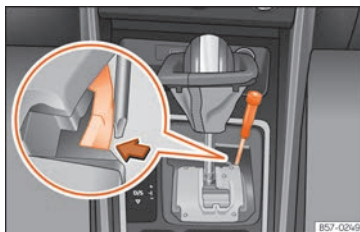

Fig. 218 Gear selector lever: manual release from the parking position.
- Using the flat part of a screwdriver, press the yellow tab sideways and keep it pressed down » Fig. 218.